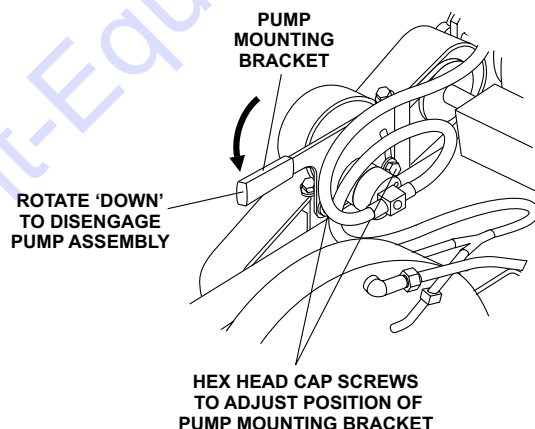

Figure 13. Pump Disengage
1. Loosen the 2 hex head cap screws (Figure 13) that secure the pump mounting bracket.